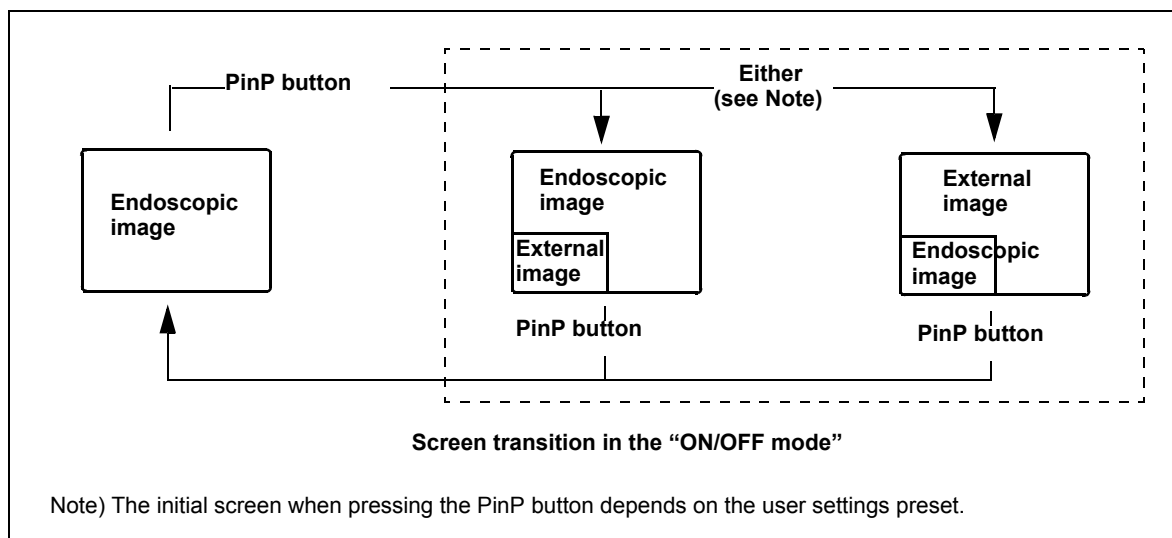
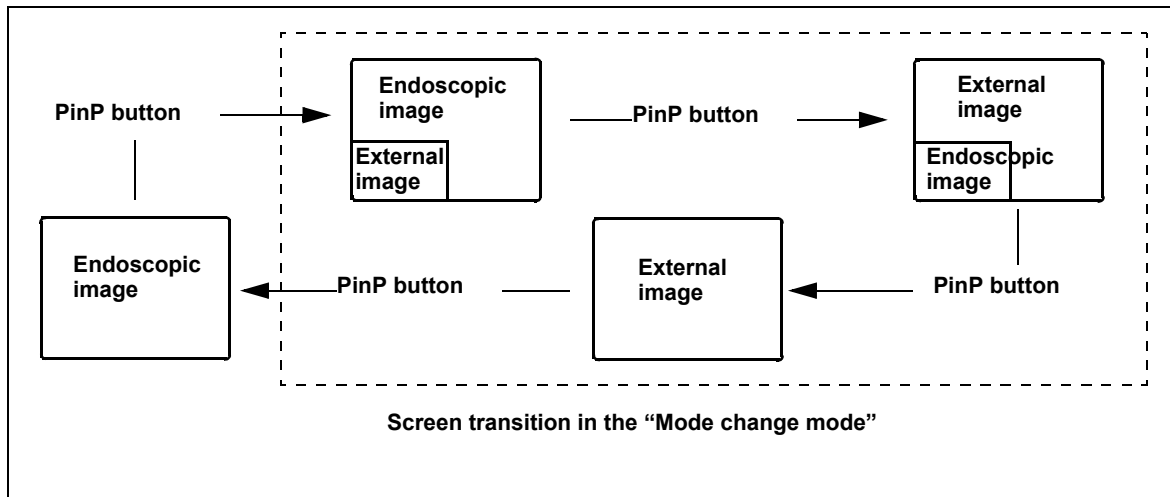

Figure 5.4
Figure 5.5
4. Press the "PinP" button to change the display. The transitions of the displays are different according to the settings in "User preset" menu (see Figure 5.4 and Figure 5.5) (refer to "PinP (picture in picture) function" on page 246 for the setting method).